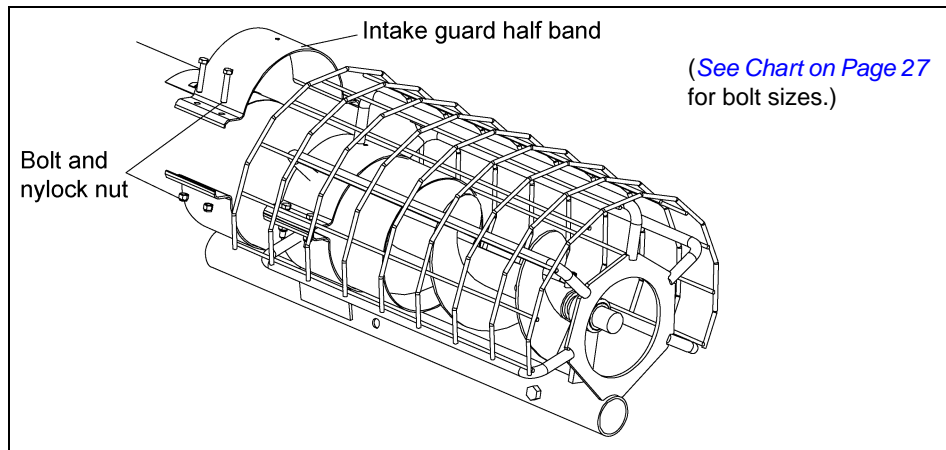

Figure 4Y
- Place intake guard half band above the lower half band on the intake guard and attach using proper hex bolts and nylock nuts. (See Chart on Page 27 and Figure 4Y.)